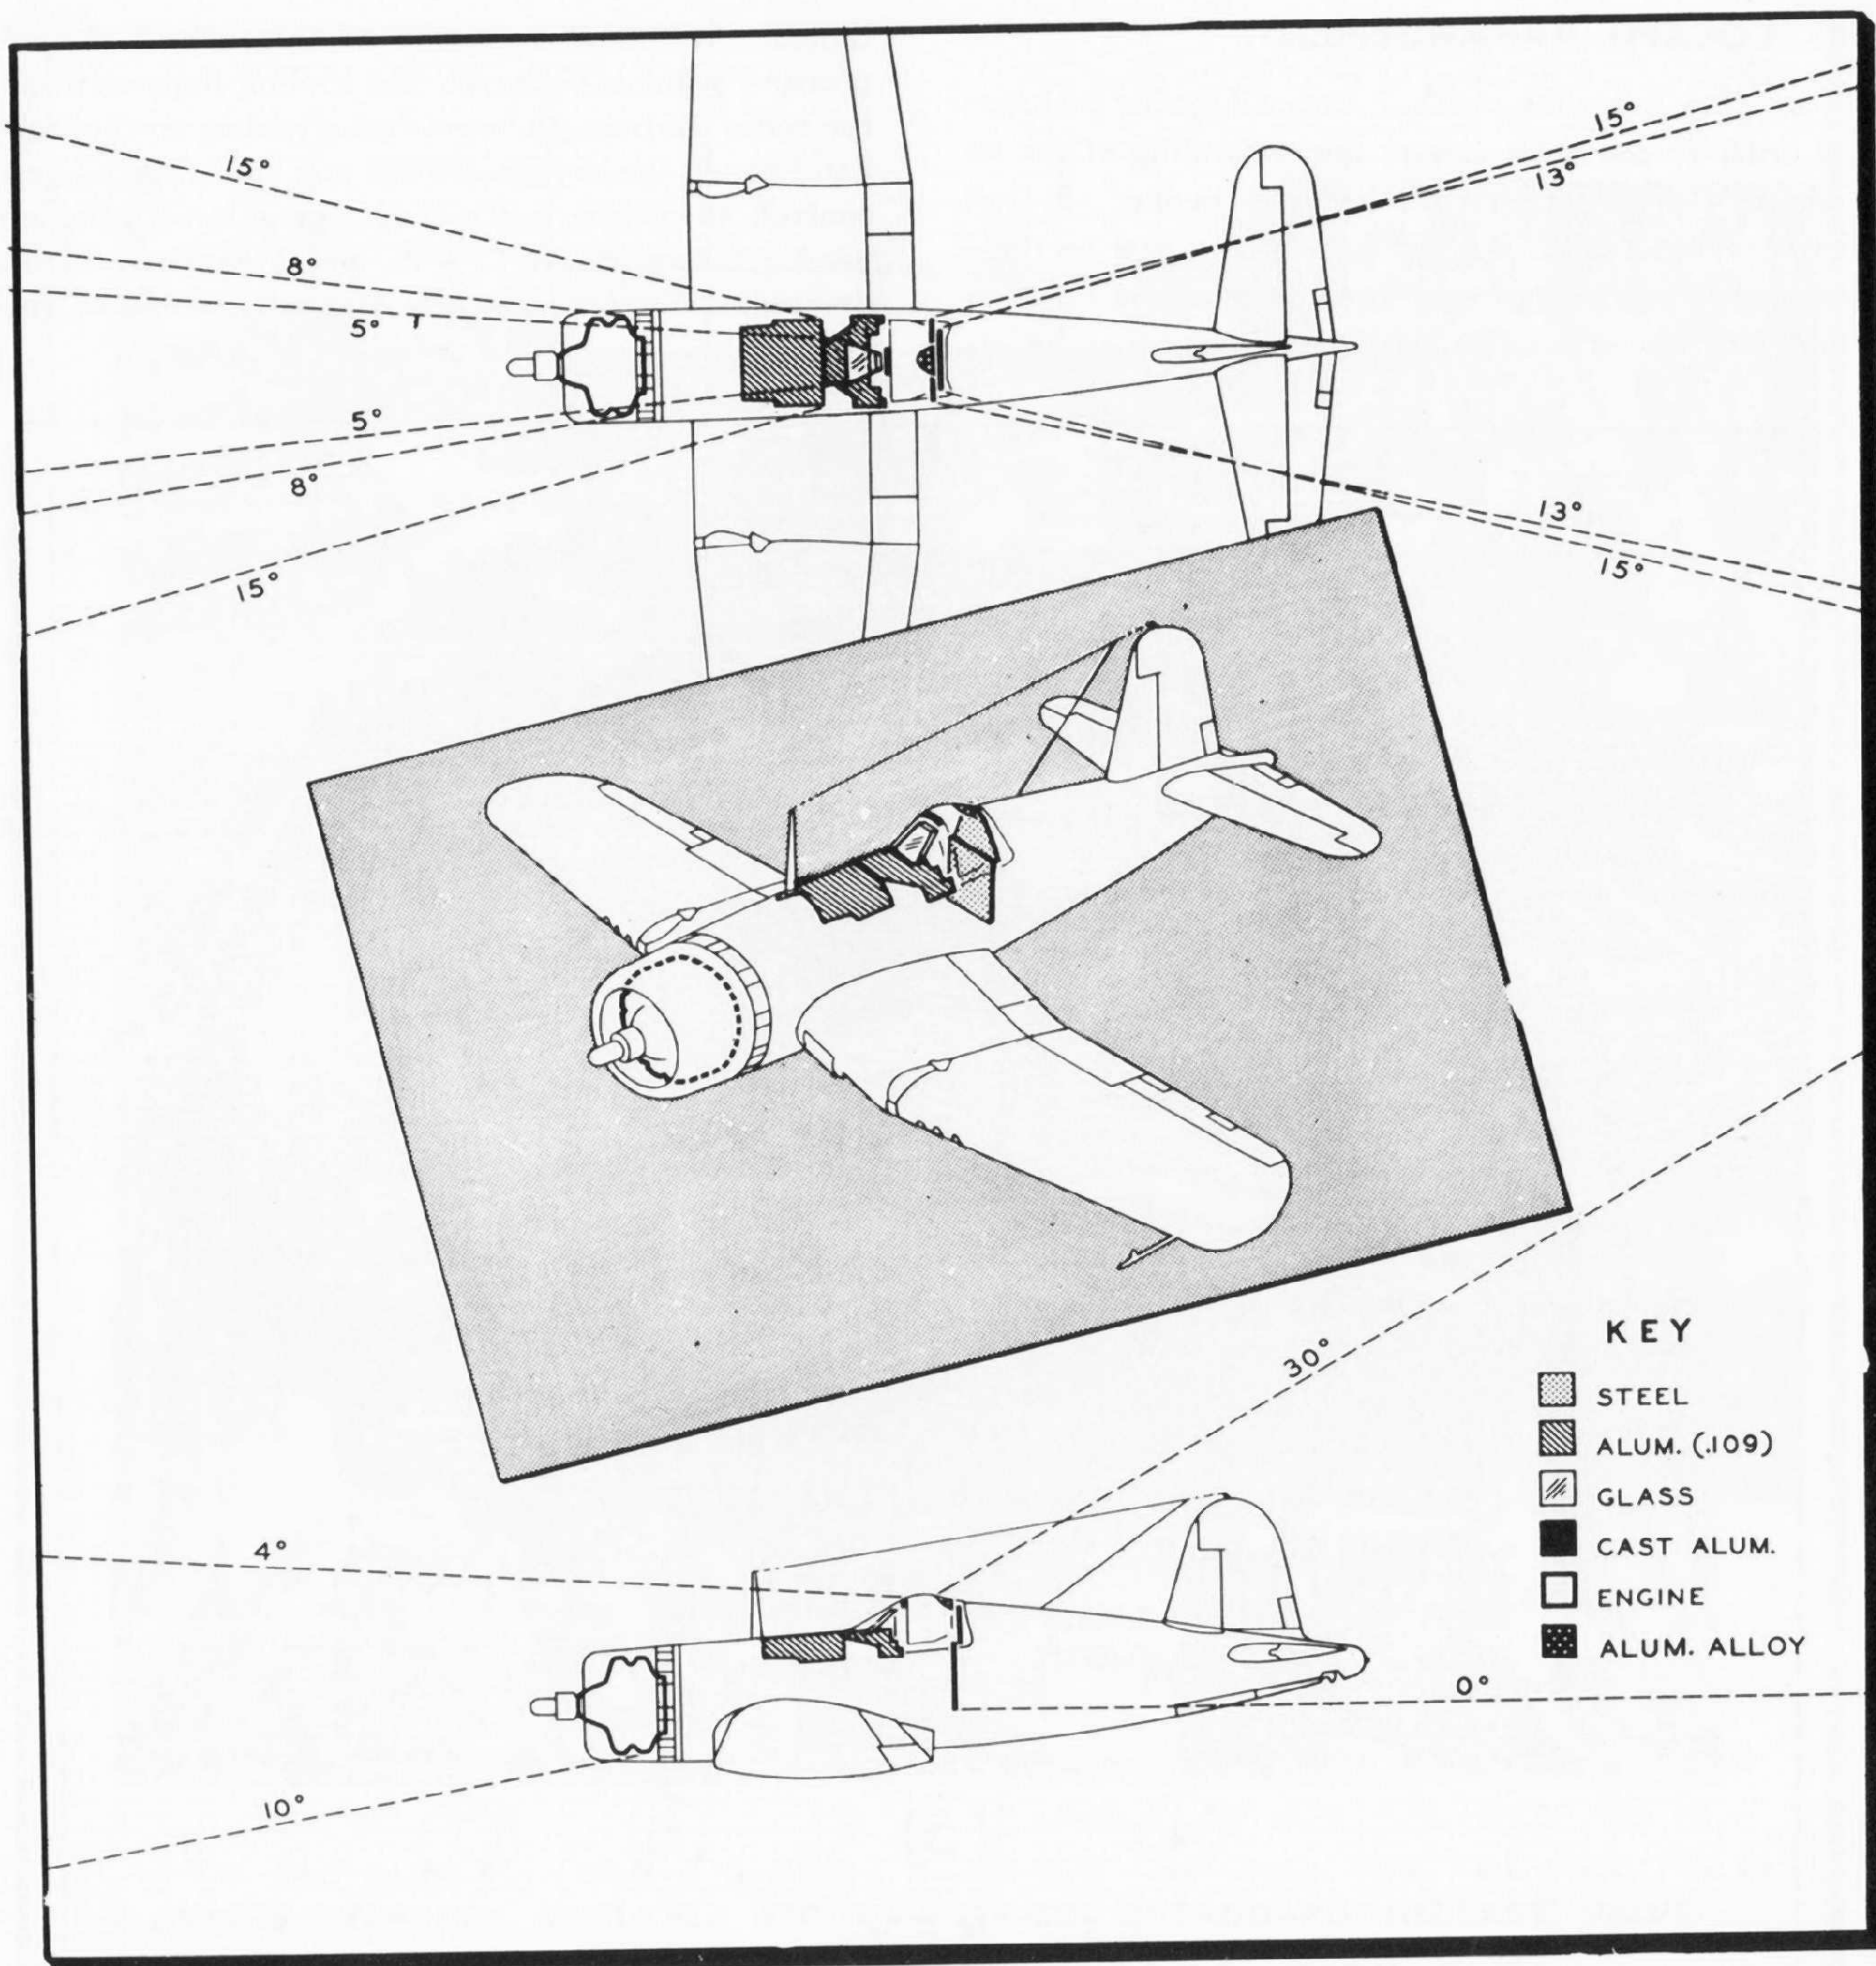

Fig. 2 — Angles of Armor Protection
c. PROTECTIVE ARMOR. — Armor is provided to protect the pilot and the fuel system. The pilot is protected from enemy fire originating within the areas graphically illustrated in figure 2. The fuel lines and main fuel tank are of self-sealing construc-